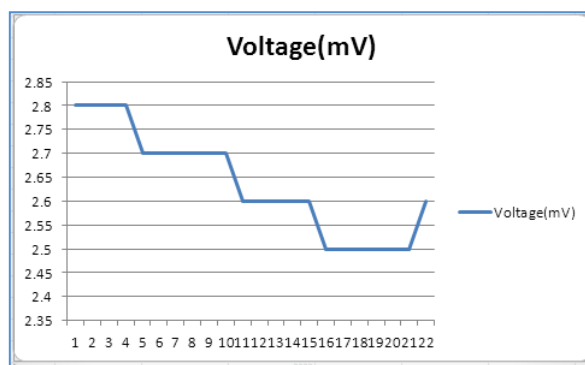

Figure 6-6
4. The chart will be displayed (see *Figure 6-6*). If you want to keep the chart, save the file to XLS format.